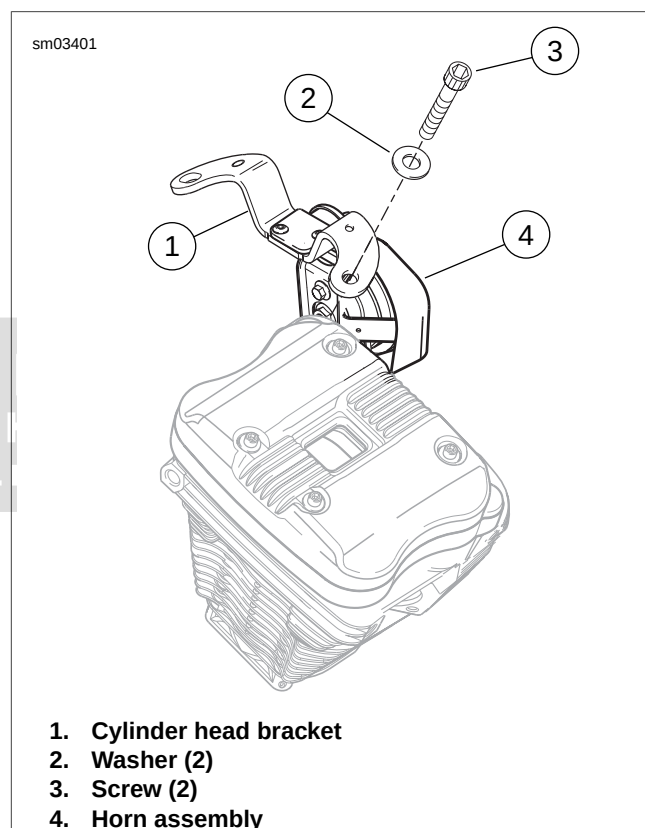

Figure 4-73. Horn and Cylinder Head Bracket (XL Models With Side Mounted Horn Only)
3. **XL Models with side-mounted horn:** See Figure 4-73. Remove screws (3), washers (2) and cylinder head bracket (1) from engine. Unplug harness connectors [122] from horn (4).
9. **XL Models with side-mounted horn:** See Figure 4-73. Plug harness connectors [122] into horn (4). Mount cylinder head bracket (1) on engine. Secure with washers (2) and screws (3). Tighten to 17-24 ft-lbs (23.1-32.6 Nm).